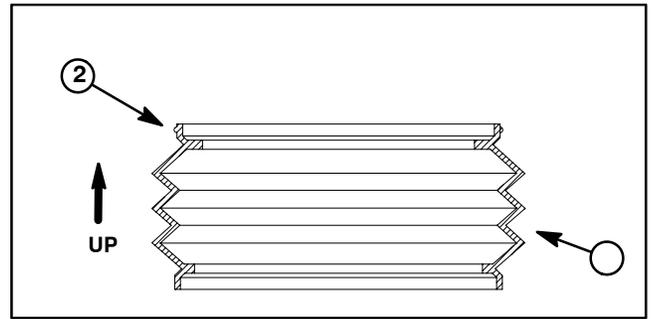
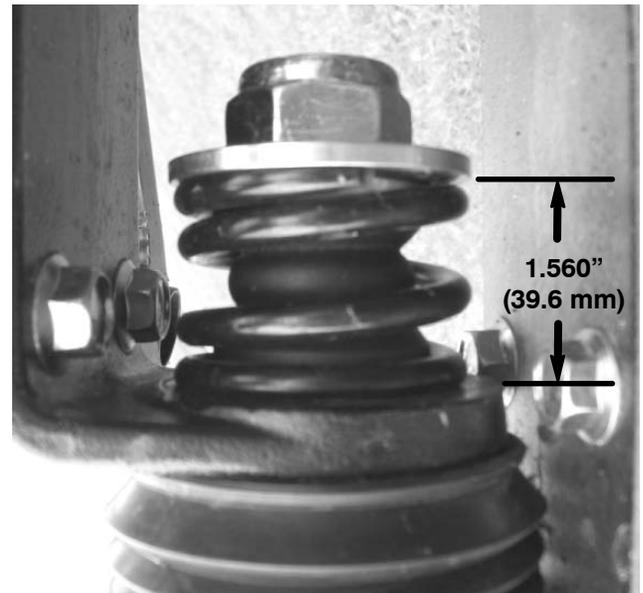

Figure 59
Figure 60
1. If pivot bracket (item 11) was removed from machine, lightly lubricate bushings (item 12) with motor oil before assembly. Connect boom actuator (not shown) to pivot bracket (see Boom Actuator Installation (Machines with Serial Numbers Above 260000000) in this section).
2. Make sure that hinges (item 1) are securely fastened to pivot bracket (item 11) and boom (item 5). The boom hinge uses four (4) backing plates between the boom and flange nuts.
3. Position boom hinge to pivot bracket hinge. Make sure that rubber boots (item 2) are placed at hinge junctions and that rib on boots are toward the top of the boom (Fig. 59).
4. Insert two (2) cap screws (item 9) through flat washers (item 10) and hinges. Place tube (item 17), break-away spring (item 19), spring retainer (item 18) and lock nut (item 8) on each cap screw. Make sure that shoulder on spring retainer fits into breakaway spring.
5. Tighten lock nuts so there is 1.560" (39.6 mm) between the face of the spring retainer and the hinge casting (Fig. 60).